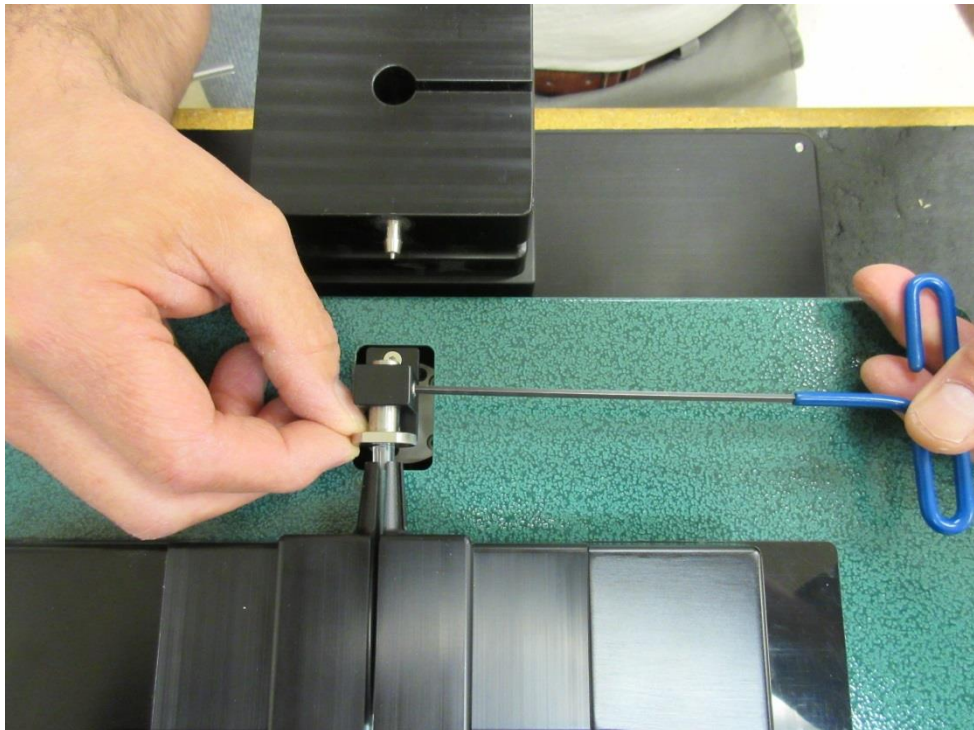

Figure 25: Adjusting the stop gate
- Loosen the set screw using a 2.5mm Allen wrench. (Figure 25)